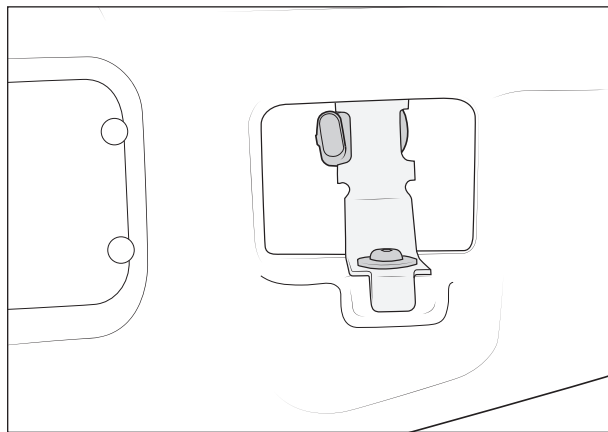

Figure 39
- C. Once window has been cut out and the outside hole drilled, install factory park sensor using one of the shorter AEV supplied brackets, a silver M6x16 Hex head bolt, and washer (fig. 39). The sensor connector should be oriented inboard on vehicle.